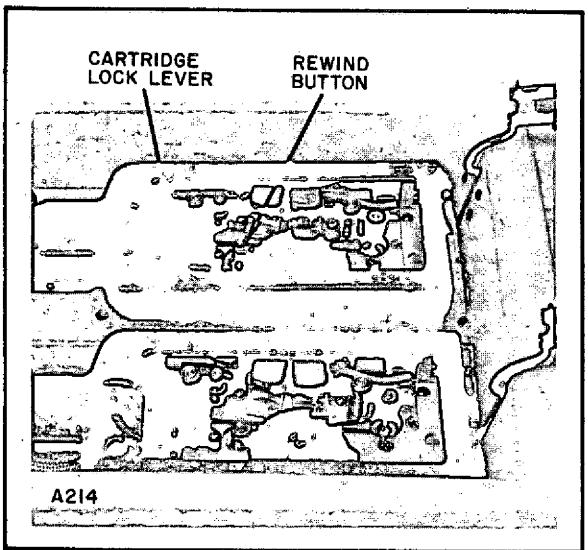

Fig. 2-3. Controls on the Tape Drive
- c. On each tape drive, there is a manual re-wind switch located between the supply and take-up reels. There is also a cartridge lock lever, which is used to lock the tape cartridge in place. The location of these controls is shown in figure 2-3.